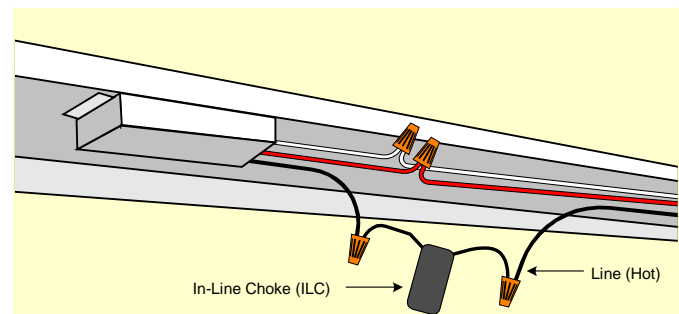

Figure 3: Connect the ILC in line
4. Install the ILC between the two open wires (Figure 3). The ILC may be wired in either direction. Use appropriate wire nuts to make a solid electrical connection.